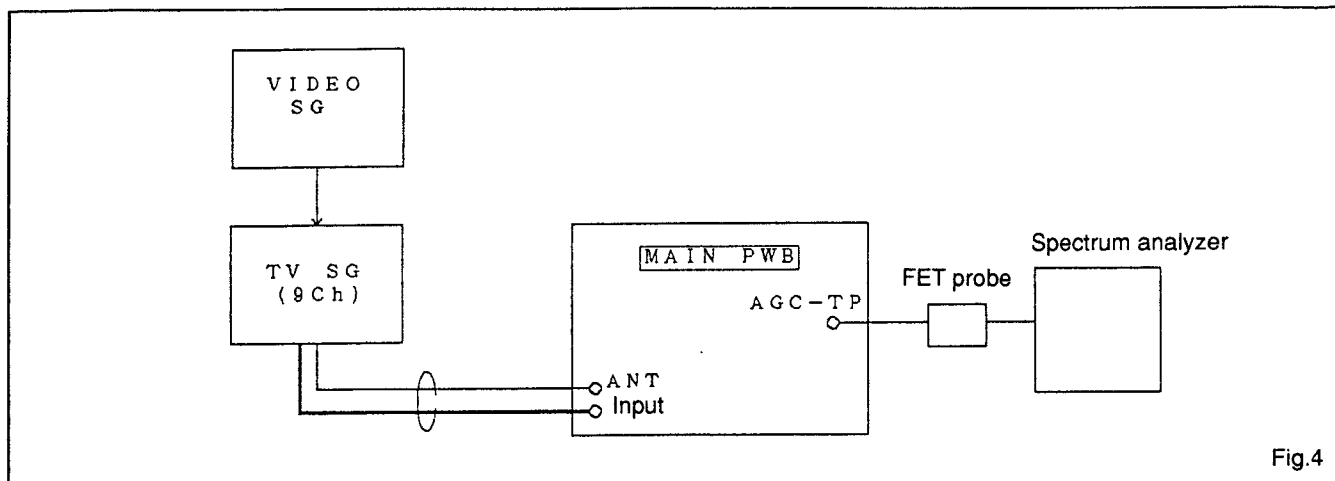

Fig.4
- (1) Prepare and connect the measuring instrument as shown in Fig. 4.
- (2) Connect the tuner pack output to the IF input with the test pattern.
- (3) TV SG setting